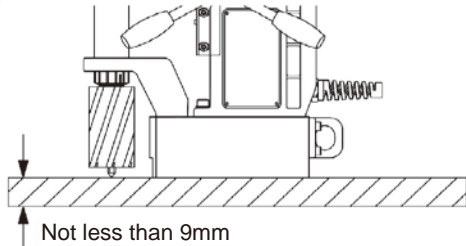

Fig. 2
- The work piece must be at least 9 mm thick. If a work piece is too thin, the magnetic power of your machine will decrease. This will cause the machine to move during operation. This could result in an accident. (Fig.2)